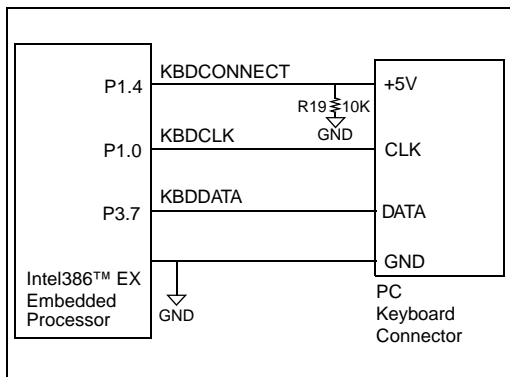

**Figure 9. Interface to Host System**
**RS-232 interface:** As shown in Figure 9, four signals interface the MHT9000 and host system: